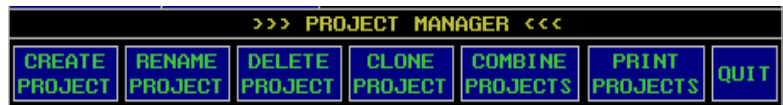

Figure 2.10: Project Manager Toolbar
2. Click CREATE PROJECT on the Project Manager toolbar (Figure 2.10).